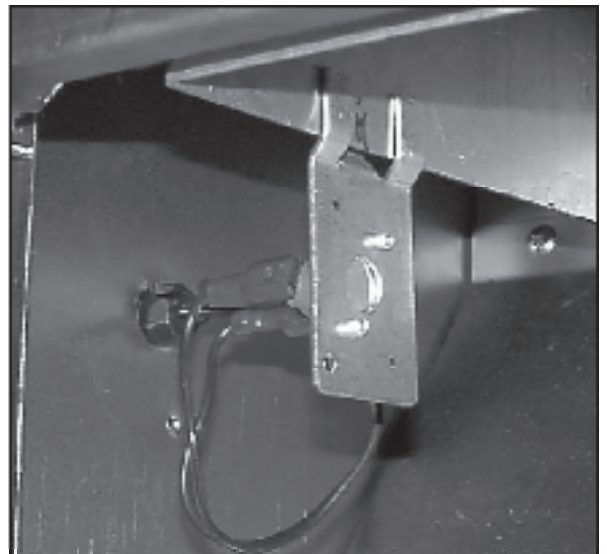

Figure 2: Blocked Vent Switch
- 4) All boilers are equipped with a blocked vent shut-off switch (Figure 2). This switch will shut the boiler down in the event that there is an excessive blockage in the vent system. This switch has a reset button, which must be pressed before the boiler can be restarted.